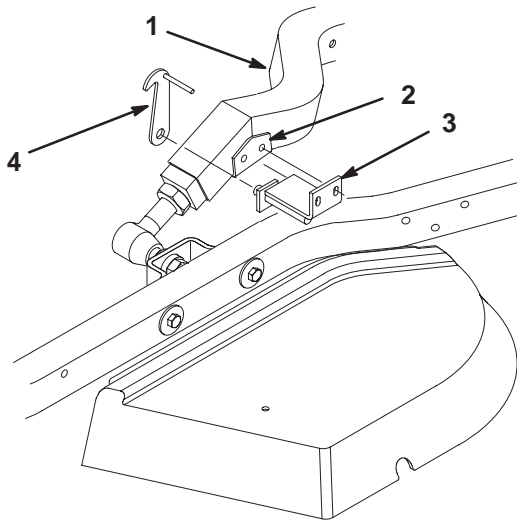

Figure 17
2. Mount the left deck retainer to the latch bracket with a wave washer and locknut (Fig. 17). Do not over-tighten the locknut, as the retainer must be able to pivot freely.